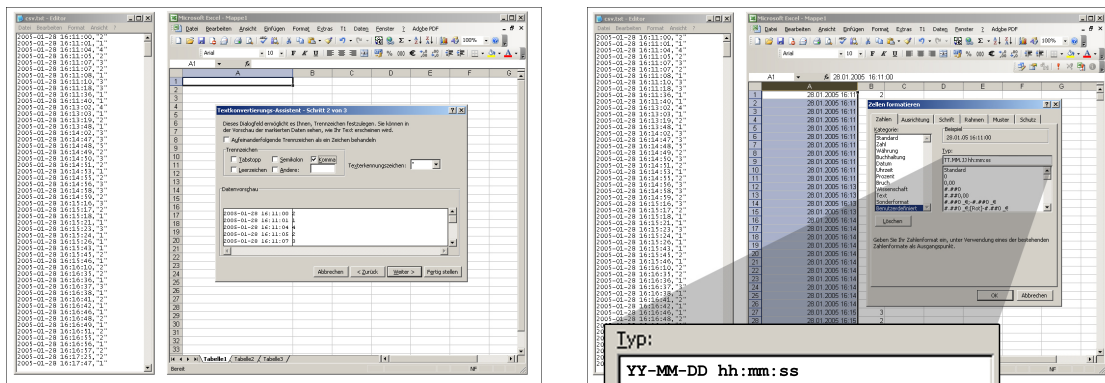

Figure 8.5.: Excel CSV import: CSV import assistant dialog (left) and the data format dialog (right)
8. In the textfield for the data format insert: **JJ-MM-TT hh:mm:ss** (figure 8.5) and click the **OK** button.